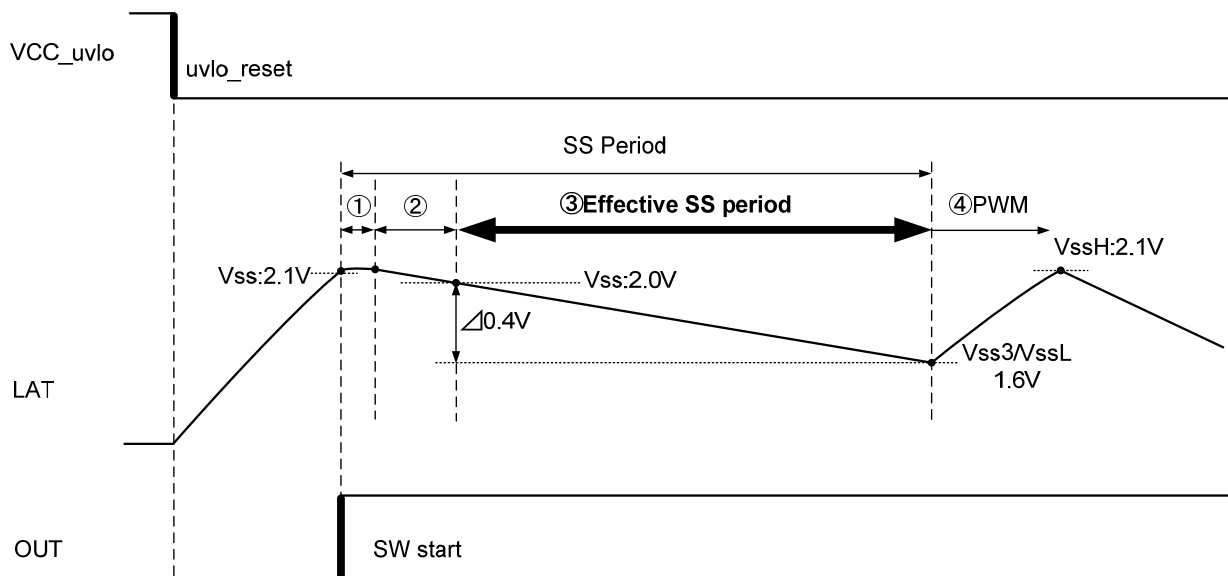

Fig. 15 Operation of soft start
(12) Soft start
This IC can adjust the soft start time by the LAT pin capacity. Operation of soft start is shown in Fig. 15. The calculation method for soft start is described below. Areas ① to ② show the LAT pin waveform during start. Area ③ shows the soft-start period where the pulse width expands gradually. (Period where voltage drops from the soft-start start voltage Vss: 2.0 V (typ.) to the soft-start end voltage Vss3: 1.6 V (typ.)) Areas ① to ③ are explained below.